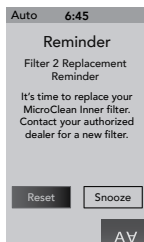

Figure 15.0e
23. MicroClean Inner Filter Reminder: This message will appear when the filter reminder time has expired (Figure 15.0e). The MicroClean Inner filter must be replaced.